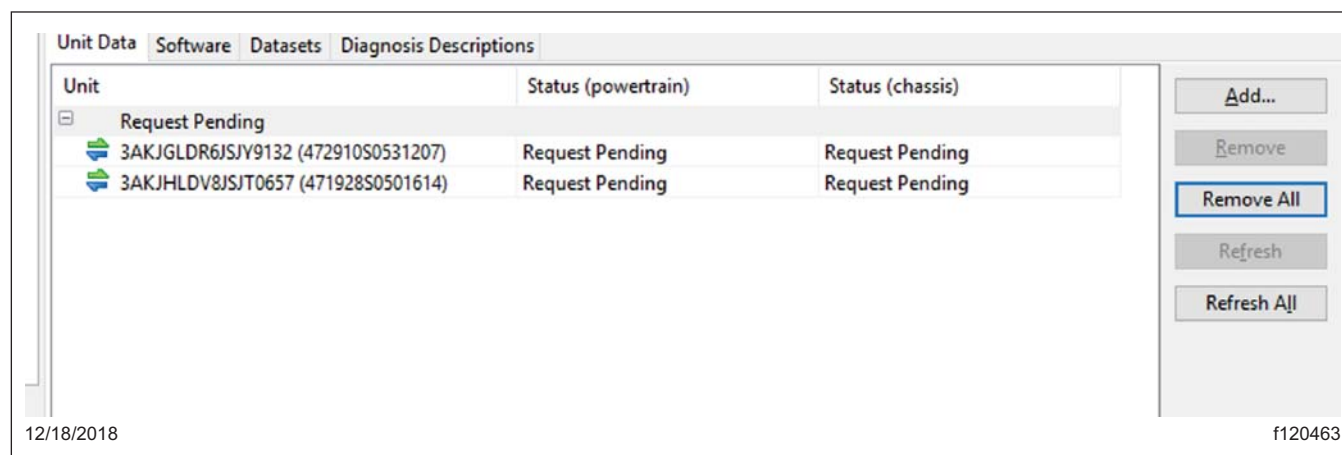

Fig. 1, Removing Pending Requests
3. Select "Program Device". If there are any items in the section "Request Pending" downloads, they should be removed. To remove them, select the "Request Pending" list item, then press the "Remove" button. See Fig. 1.